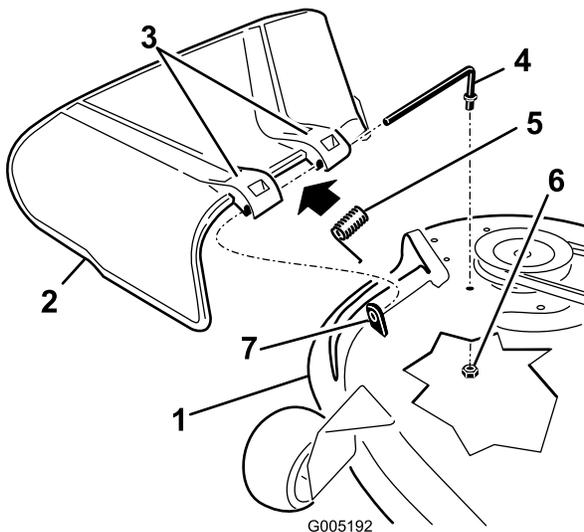

Figure 45
- Locate items shown in Figure 45.
- Remove the nut (3/8 inch) from the rod under the mower (Figure 45).
- Slide the rod out of the short stand-off, spring, and grass deflector (Figure 45). Remove the damaged or worn grass deflector.
- Replace the grass deflector (Figure 45).
- Place the spring on the rod, with end wires down, and between the grass deflector brackets. Slide rod through second grass deflector bracket (Figure 45).
- Insert rod at front of grass deflector into short stand-off on deck. Secure rear end of rod into the mower with a nut (3/8 inch) (Figure 45).